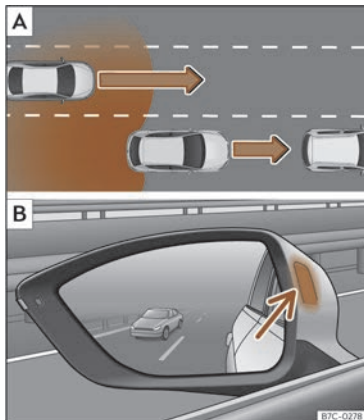
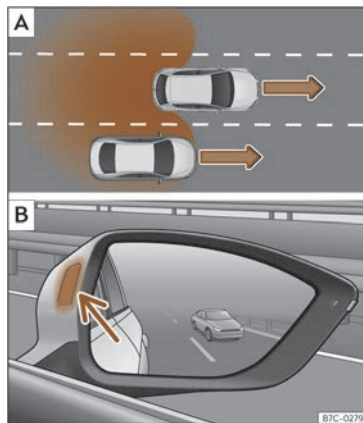

Fig. 122 Schematic diagram: **A**) Overtaking with traffic behind the vehicle. **B**) Side Assist indication on the left hand side.
Fig. 123 Schematic diagram: **A**) Overtaking in the central lane and then joining the right lane. **B**) Side Assist indication on the right hand side.
In the following situations, an indication will be displayed in the control lamp >>> **Fig. 122 B** (arrow) or >>> **Fig. 123 B** (arrow):
- When being overtaken by another vehicle >>> **Fig. 122 A**.
- When passing another vehicle >>> **Fig. 123 A** with a speed differential of approx. 10 km/h (6 mph). If the vehicle is passing at a considerably higher speed, no indication will be displayed.